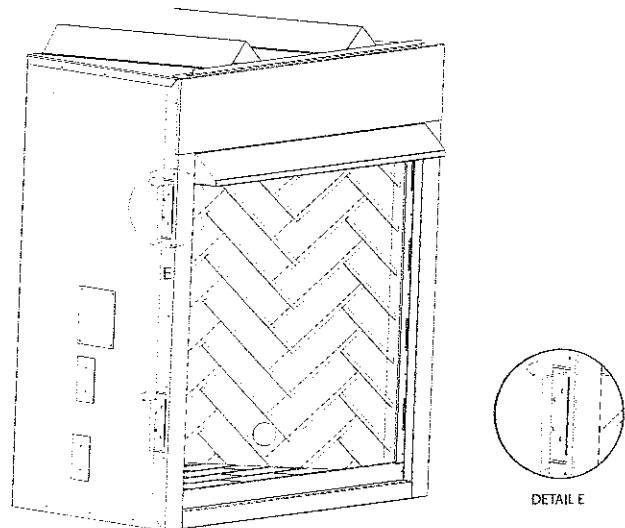

Fig. 8
Four (4) nailing flanges are supplied with the fireplace to level the box and secure firmly in place; Bend the nailing flanges from the sides of the fireplace as shown in Figure 8.